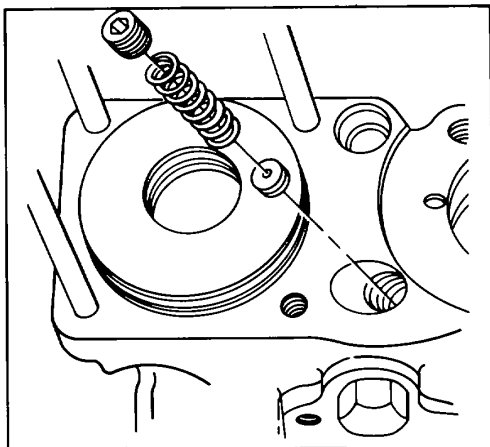

Figure 175.
1. Inspect servo rod bushing (68).
2. If removed during disassembly, install orifice (53) and spring (52) with plug (51) using Loctite pipe sealant. Torque plug down tight. See Fig. 175